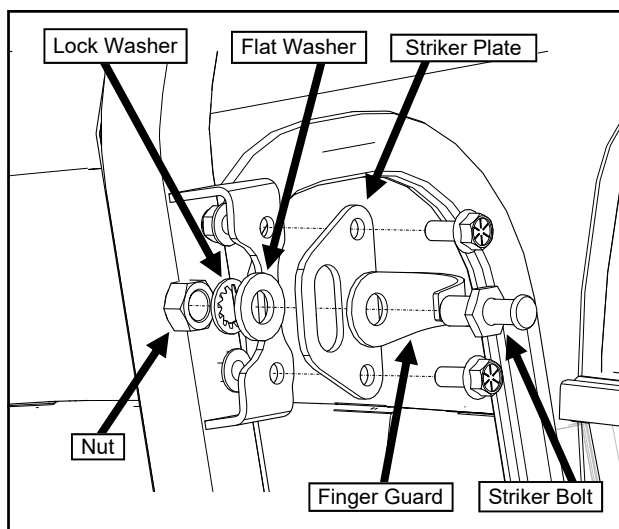
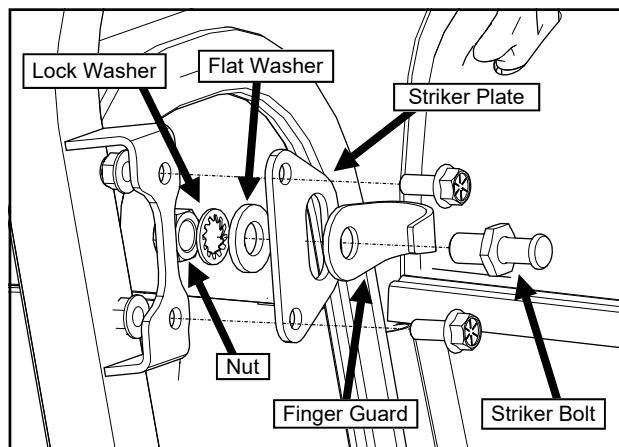

Fig. 18.1A (Door Striker OUTSIDE for steel doors)
Fig. 18.1B (Door Striker INSIDE for vinyl hinged doors)
18.1 Install the striker plate to the left A-pillar mounting bracket with the large slot to the outside for the steel doors (see Figure 18.1A) or to the inside for vinyl doors (see Figure 18.1B).
18.2 Install the striker parts oriented as shown in Figure 18.1A or 18.1B. Note the finger guard should always be oriented toward the inside of the cab.